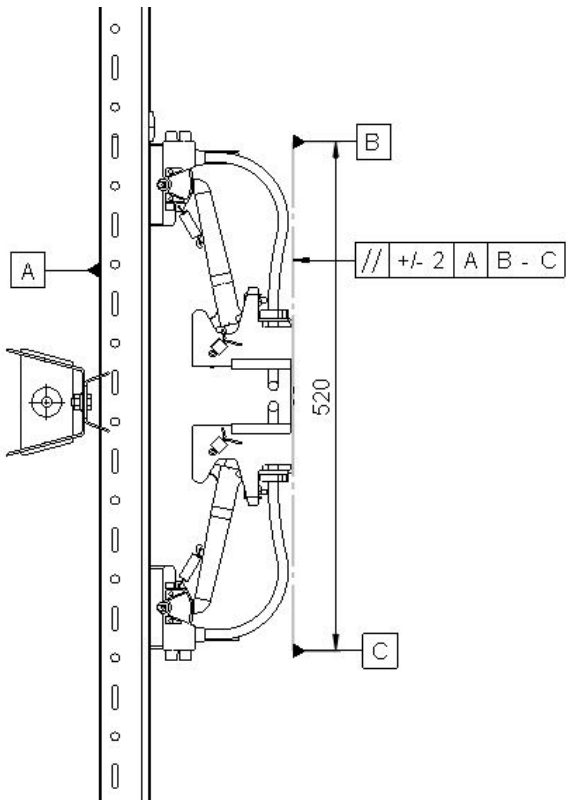

Fig. 85: Tolerance parallelism
- Observe the distance between the installing plane of the current collector unit and the contact surface of the conductor rail according to the installation drawing (see Fig. 82 to Fig. 85):
- The current collector must be perpendicular to the contact surface (see Fig. 82 to Fig. 85). If necessary, the position of the current collector must be adjusted. A height offset can lead to damage to the surface contacts and the insulating profile.